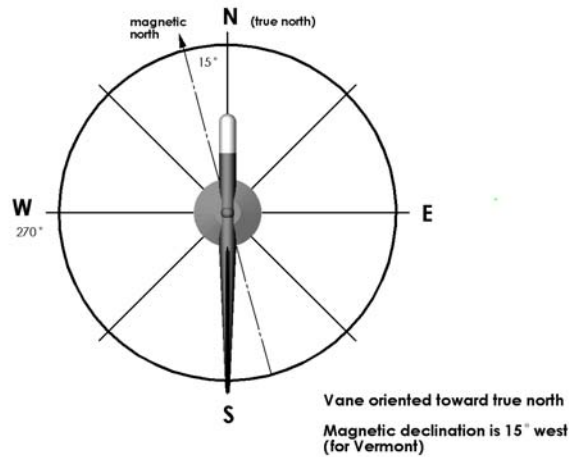

Figure 1
1. Use a transparent orienteering compass with a rotating bezel and magnetic declination markings. In the example in Figure 1, 15 degrees west means that the direction of the compass needle (magnetic north) lies 15 degrees west of true north.